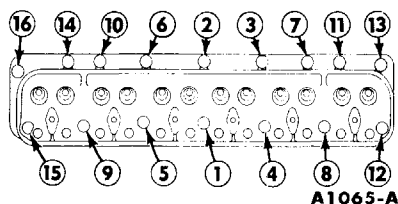

FIG. 17—Cylinder Head Bolt Tightening Sequence
8. The cylinder head bolts are tightened in three progressive steps. Follow the sequence shown in Fig. 17. Tighten the bolts to 55 foot-pounds torque, then to 65 foot-